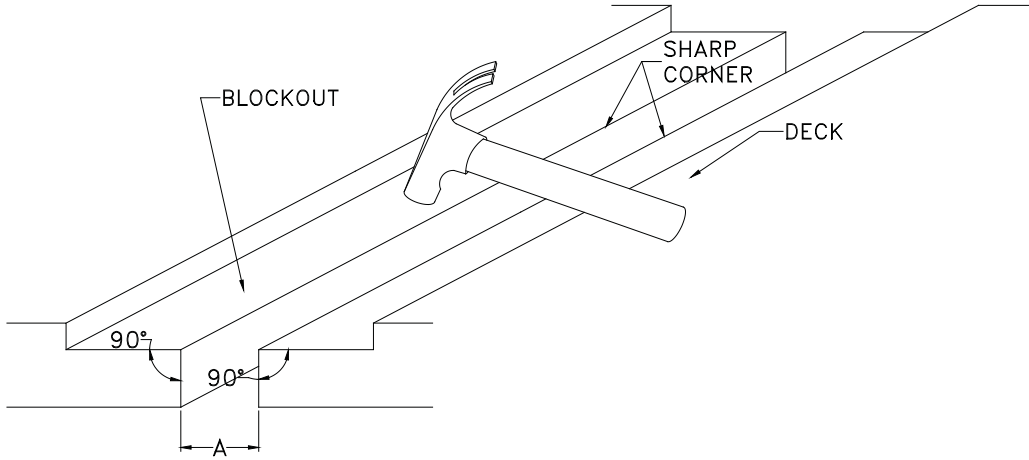

Figure 2
- E. Concrete within the blockout area and adjacent to the expansion joint system must be sound. Confirm by tapping these areas with a hammer (see Figure 2). A hollow sound, or cracking, crumbling or loosening of the concrete, indicates it is unsound and must be removed and repaired with a structural repair mortar. Acceptable repair mortars include; Thoroc 1060, Emaco T-415 and Sika 123.